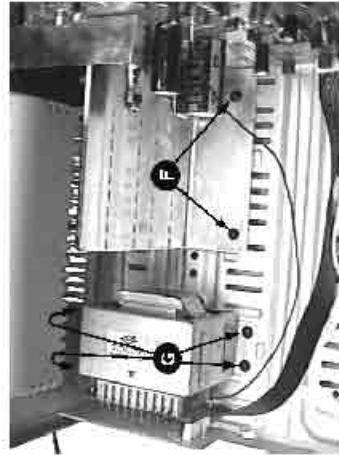

Figure 8
- 3) Loosen 4 screws G to remove the Mains Transformer as shown in figure 8.